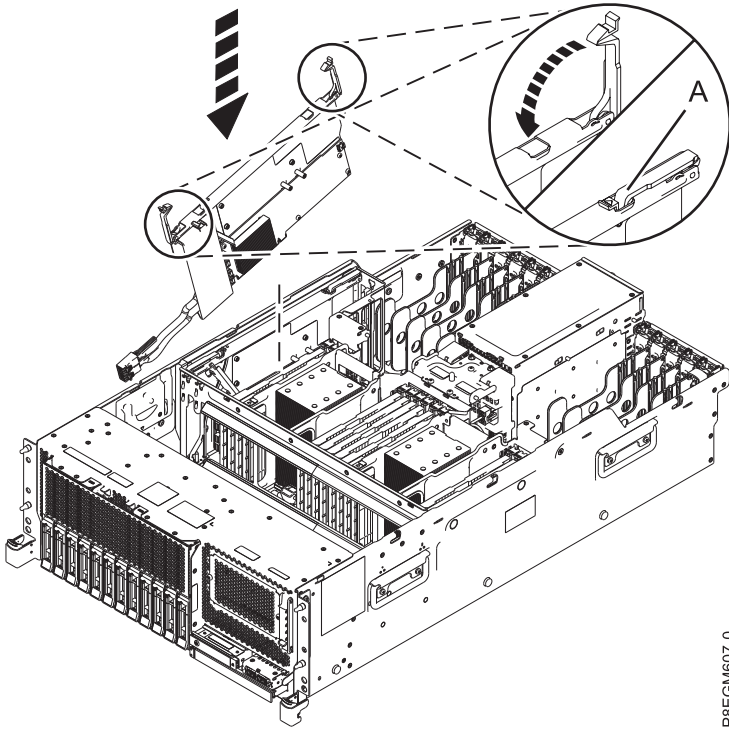

Figure 6. Installing the SAS RAID internal adapter in slot P1-C15
15. Push the blue handles (A) in the direction that is shown. See Figure 6 on page 8.